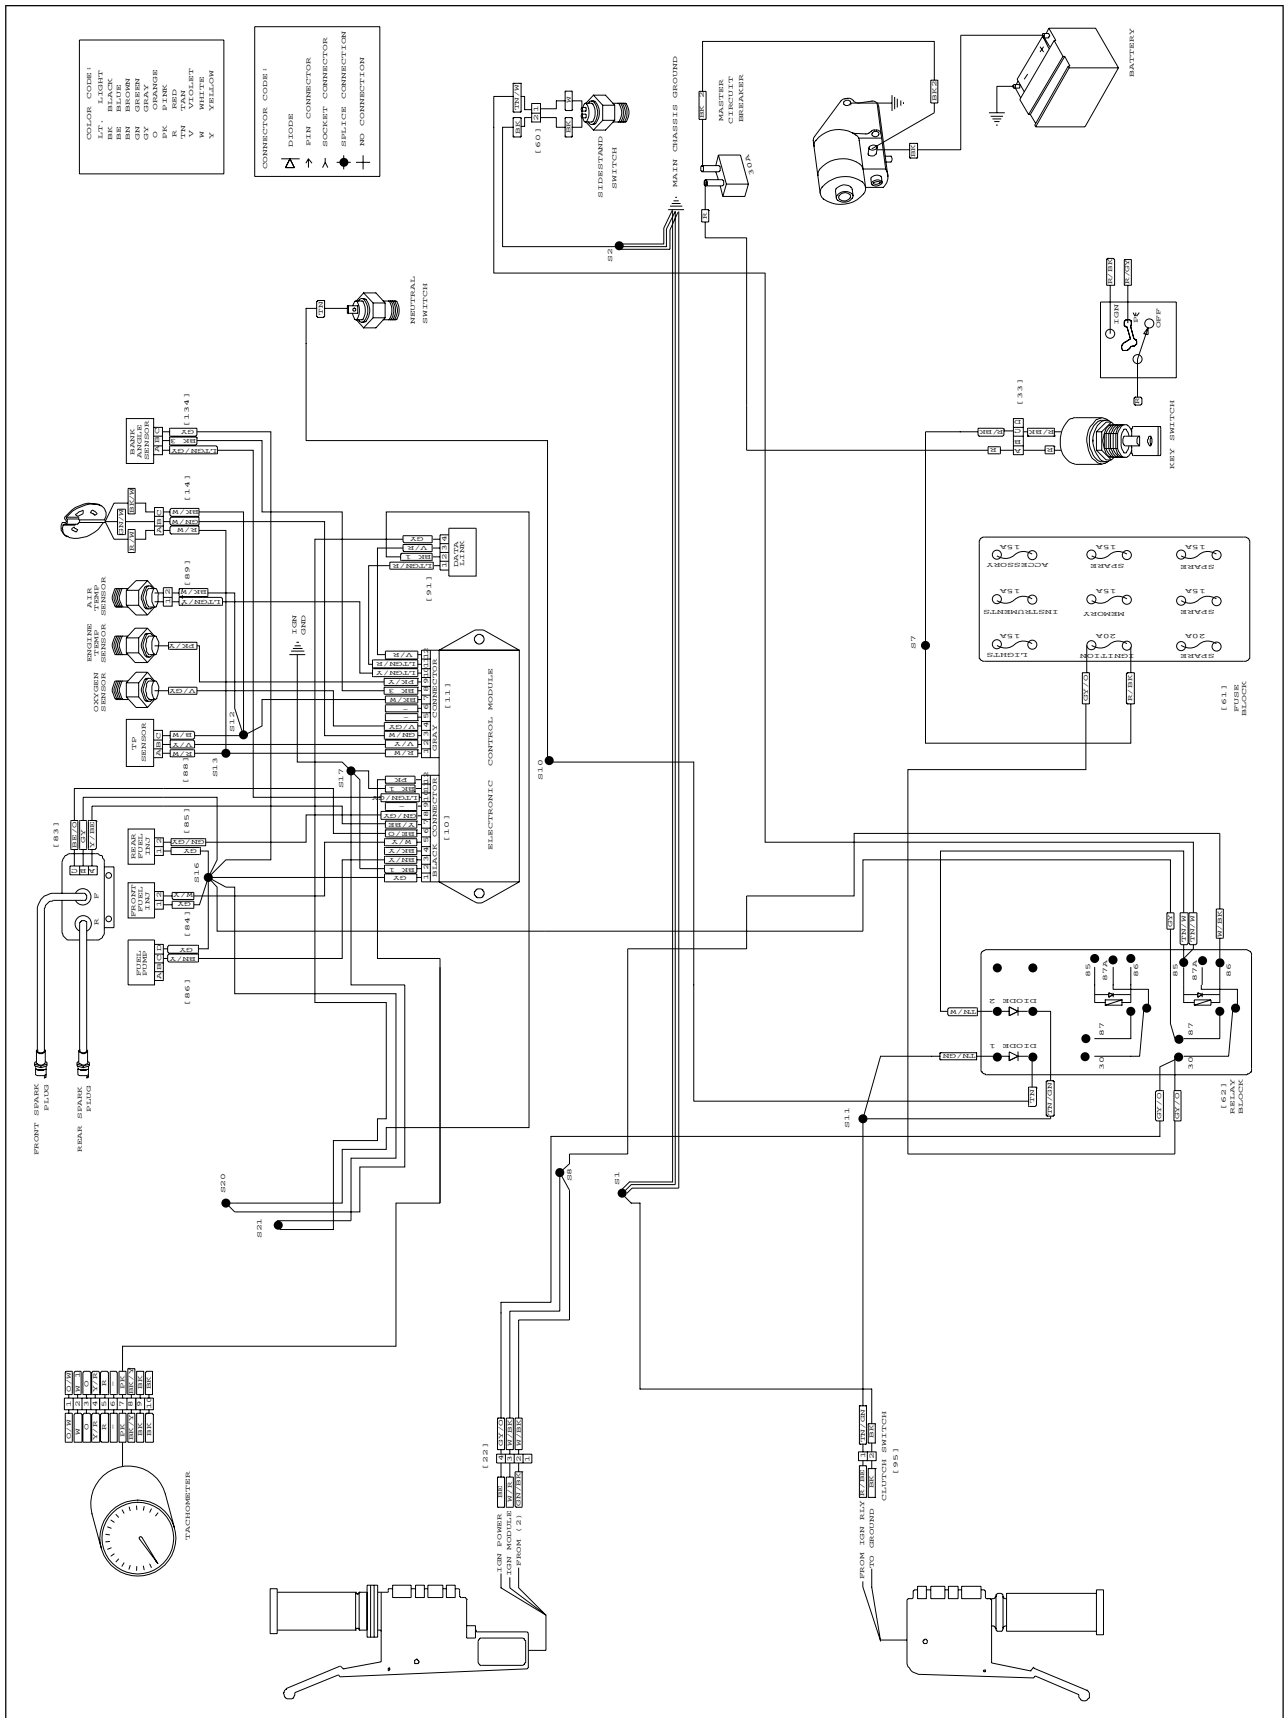

Figure 7-11. Starter/Ignition Interlock System
1. Check diode with an ohmmeter as shown in Figure 7-11
2. Check diode polarity as shown in Figure 7-11